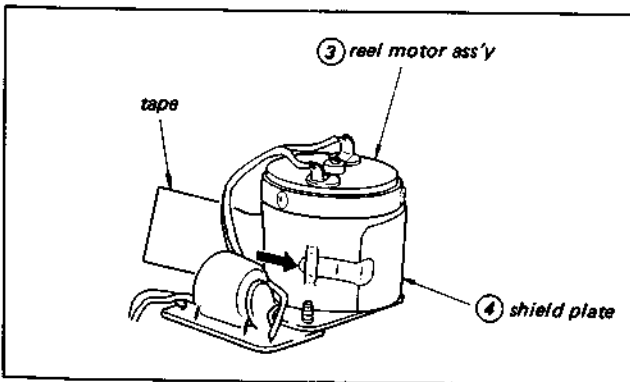

Fig. 3-31. Reel motor replacement (3)
- 5) Peel off the tape and pull out the shield plate ④ claw to remove the reel motor assembly. (See Fig. 3-31)